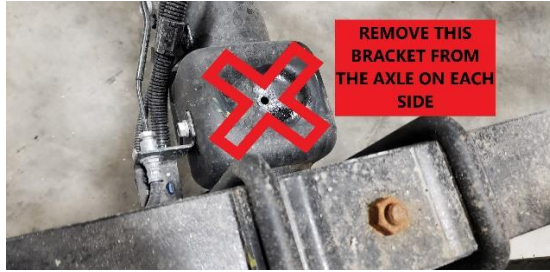

Figure 3
- 8:** Cut bump stop pads off of the top side of the axle and grind the axle smooth. See figure 3.